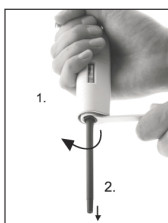
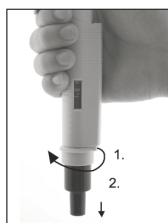

Fig.9
Fig.10
- Place the wrench end of the opening tool over the tip cone, turning it anticlockwise. Do not use any other tools (Fig.9). The 5 ml tip cone is removed by turning it anticlockwise. Do not use any tools (Fig.10).